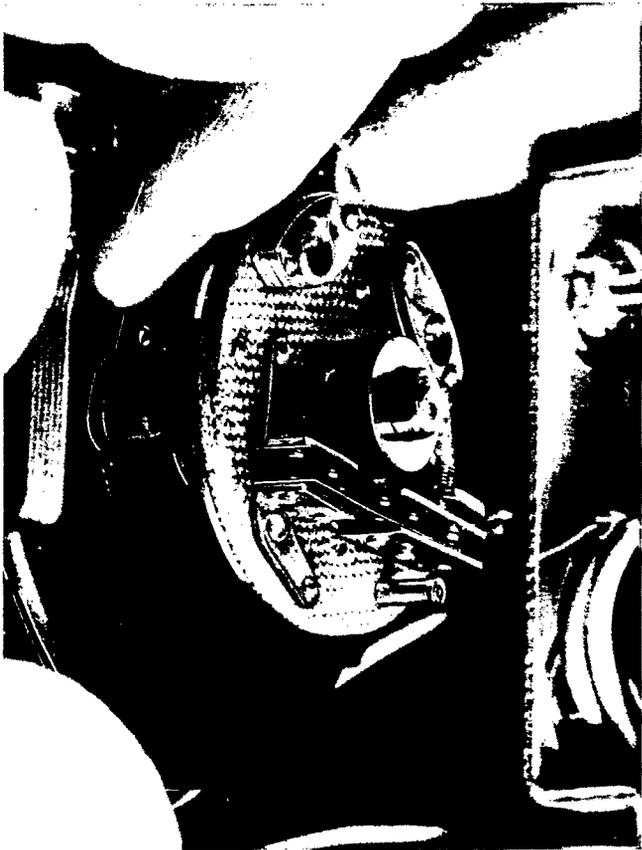

Figure 9. Inspect Brushes of SERO-FUGE II Centrifuge for Wear by Depressing Springs to Expose Brush Surface.
- (b) Referring to Figure 9, locate the Governor Brush Block. The brushes may be inspected without disassembly as shown below.